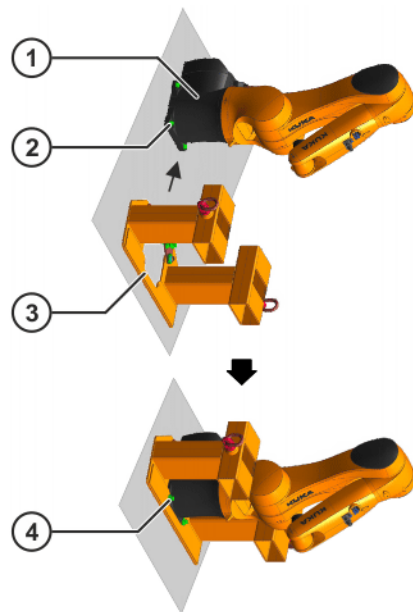

**Fig. 11-3: Transport position**
3. Put the robot into operation and move it into the transport position (>>> Fig. 11-3 ).